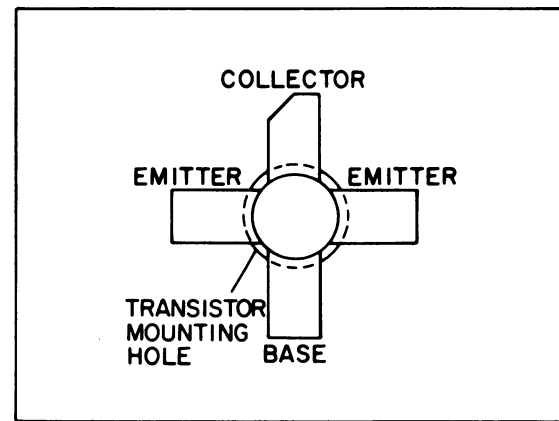

Figure 4 - Lead Identification
6. Trim the new transistor leads (if required) to the lead length of the removed transistor. Cut the collector lead at a 45° angle for future identification (see Figure 4). The letter "C" on the top of the transistor indicates the collector.